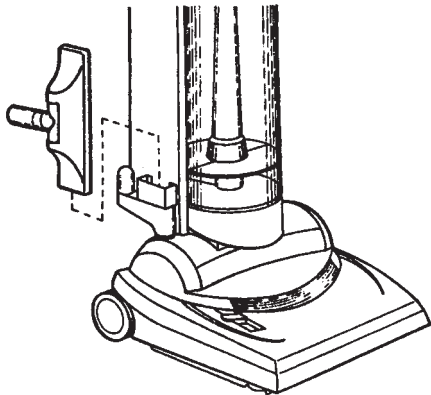

Figure 4b
2. Grasping the round extension, slide the flat end of the Nozzle front into the Tool Holder Cup. (See Figure 4b.)